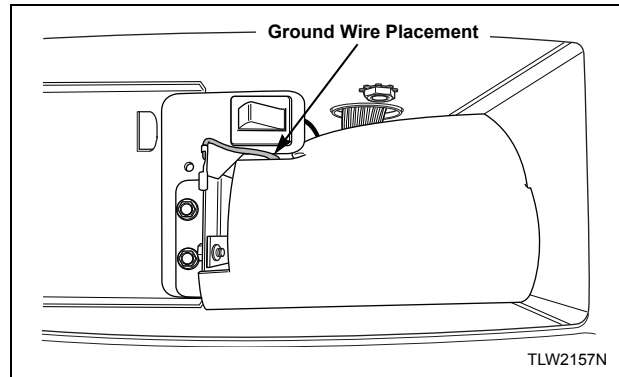

Figure 32
7. Before installing coin slide extension, make sure ground wire is tucked under control shield to provide clearance for coin slide. Refer to *Figure 32*.